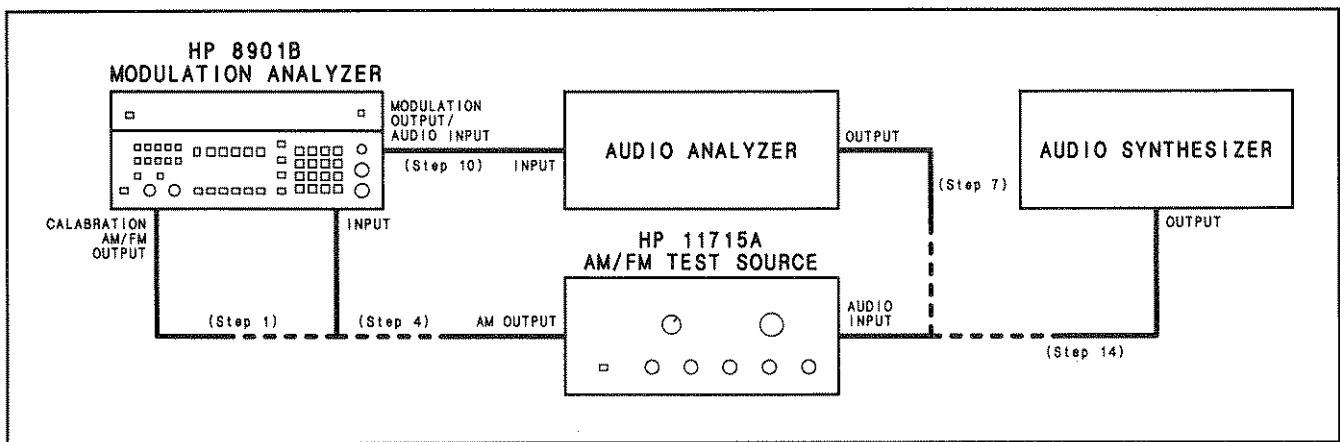

Figure 4-1. AM Performance Test Setup
4. On the AM/FM test source, set the test mode switch to AM. Connect the test source AM output to the Modulation Analyzer's INPUT. (See Figure 4-1. Nothing should be connected to the test source's audio input.)
7. Set the audio analyzer's oscillator to 20 kHz. Connect its output to the audio input of the AM/FM test source. (See Figure 4-1.)
- Connect the audio analyzer's input to the Modulation Analyzer's MODULATION OUTPUT/AUDIO INPUT. (See Figure 4-1.) Set the audio analyzer to measure the distortion on the 20 kHz signal at the MODULATION OUTPUT/AUDIO INPUT with 80 kHz of low-pass filtering (on the audio analyzer). The distortion should be 0.3% or less (-50 dB or less).
- Set the audio synthesizer to 1 kHz at +1 dBm. Connect its output to the audio input of the AM/FM test source. (See Figure 4-1.) Fine adjust the audio synthesizer level for a Modulation Analyzer display of 80% AM.